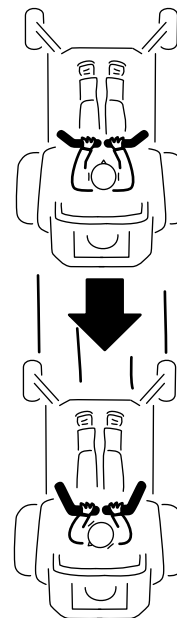

Figure 25
2. To go in reverse, slowly pull the motion-control levers rearward (Figure 25).